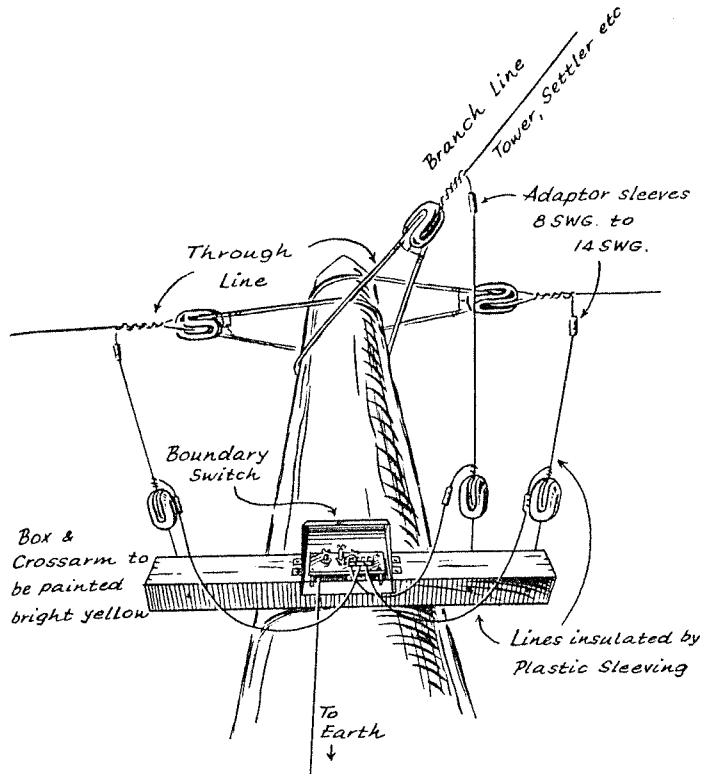

Fig. 25.
78. Fig. 25 shows the method of installing a boundary and branch switch. It should be noted that the box and cross arm are to be painted a bright yellow so that they can be picked out with ease.